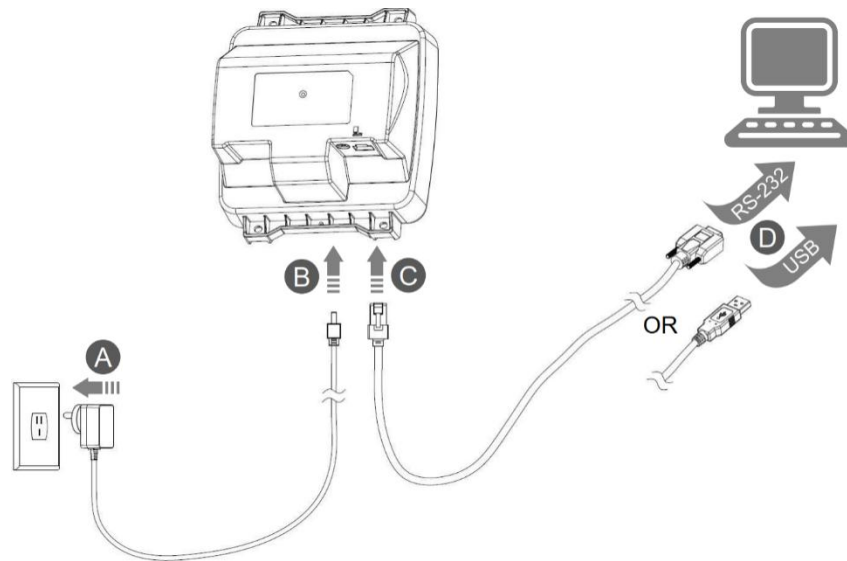

Figure 2-4
1. For the FM80 with the adapter, connect the adapter first and power on the FM80 according to step A and step B in Figure 2-4. Then connect the data cable (USB data cable or RS-232 data cable) according to step C and step D. Finally connect the handheld barcode scanner if needed, following step E and step F.